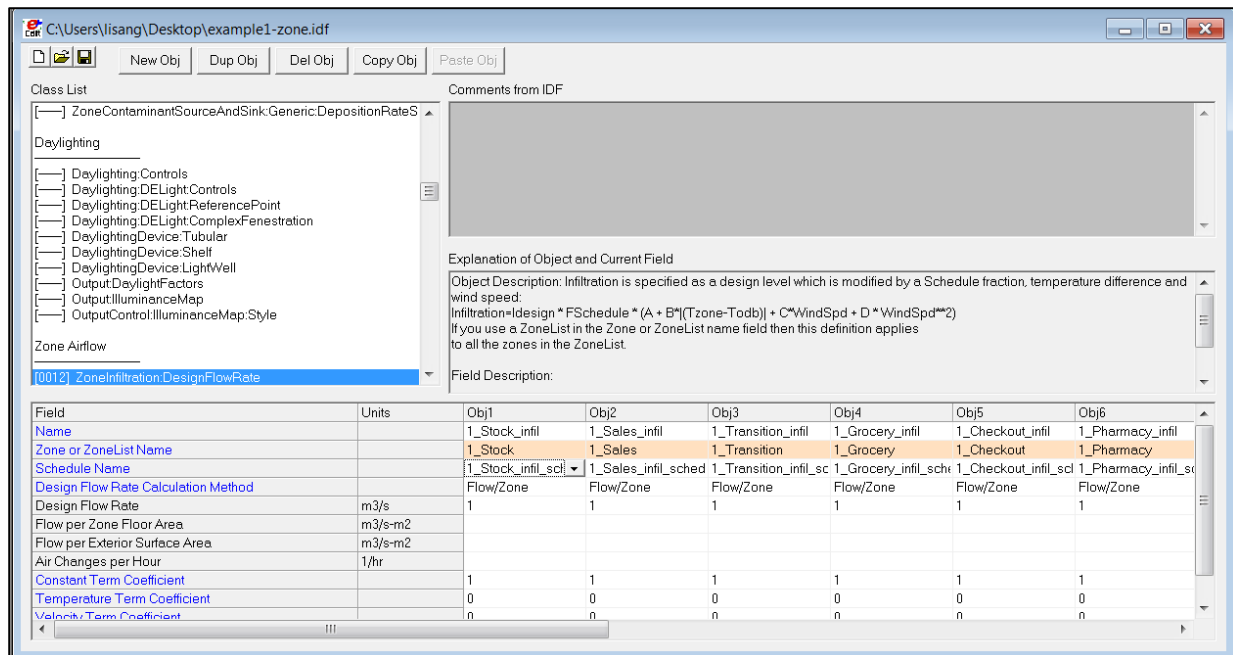

Figure 37. Creating new ZoneInfiltration:DesignFlowRate object(s) in EnergyPlus project file
- c. Scroll or use the Find function (Ctrl+F) to go to the ZoneInfiltration:DesignFlowRate object (Figure 37). Delete any existing ZoneInfiltration:DesignFlowRate objects. Press the “New Obj” button. In the new ZoneInfiltration:DesignFlowRate object, input the following (the inputs are also in the partial .idf file):